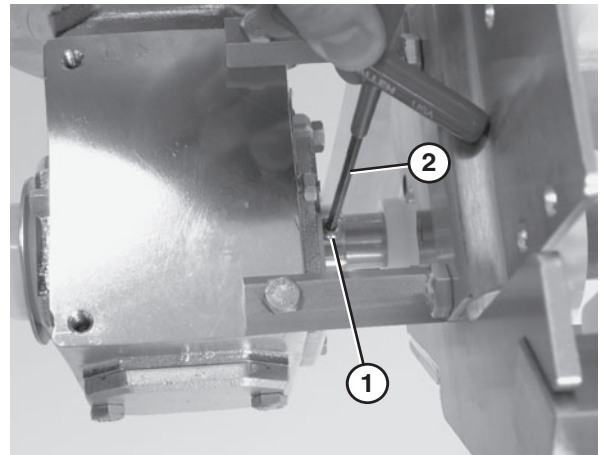

Figure 67
1. Loosen the fasteners (**Figure 67, item 1**) that connect the gearmotor to the drive spindle using a hex wrench (**Figure 67, item 2**).